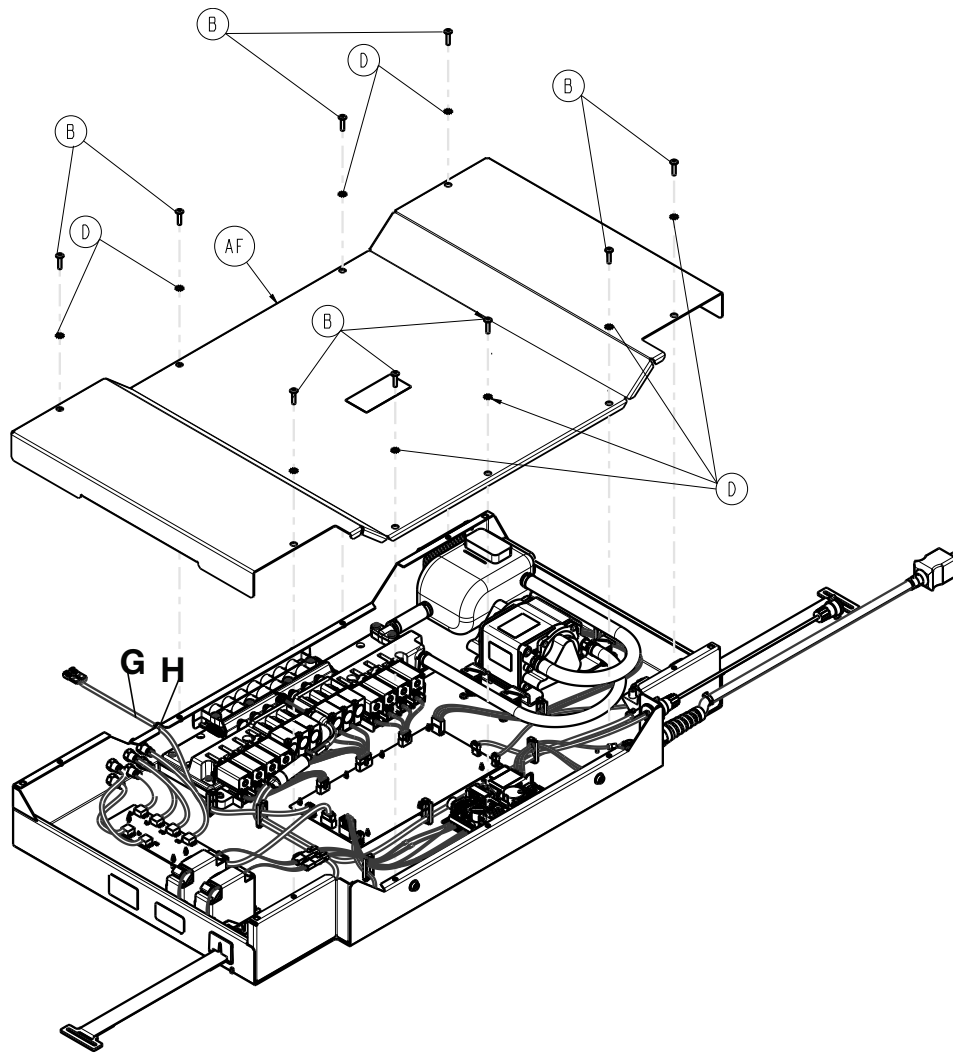

Figure 11 – Foot box cover
- During reinstall, tighten the screws equally and do not over tighten. Torque (B) to 22 ± 4 in-lb.
- During reinstall, check the LAL fan cable (G) and grommet (H) are in place before replacing the foot box cover (Figure 11).
14. Remove the foot box cover (AF) (Figure 11). Save the foot box cover.